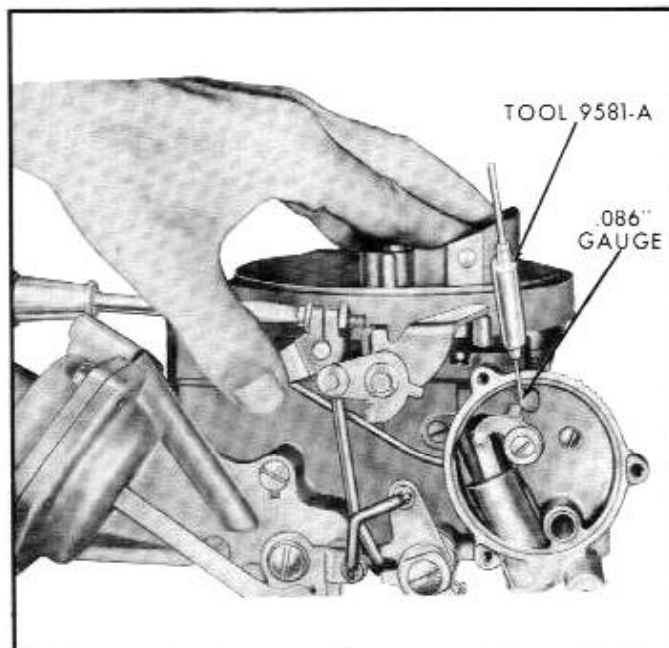

Fig. 9E-14—Choke Countershaft Linkage Adjustment
2. With pump operating rod in center hole (medium stroke) of pump arm, the distance from the top of the air horn to the top of the plunger shaft should be $15/32$ ". See figure 9E-13.